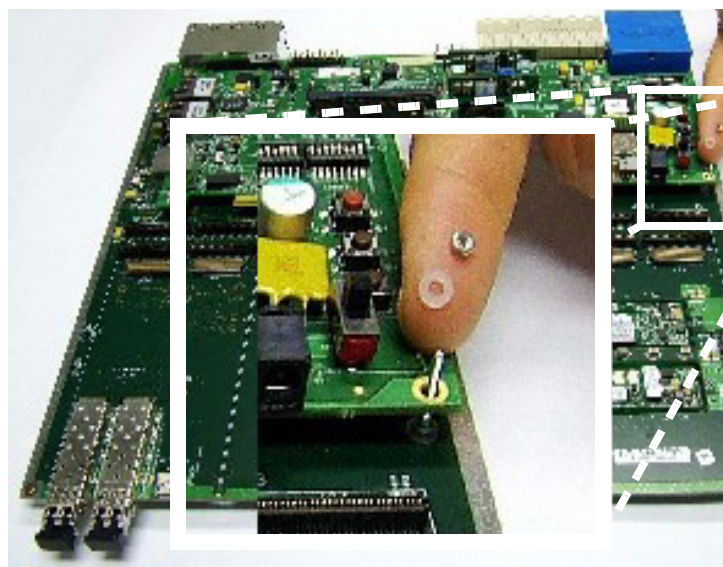

Figure 2-6. Fasten the four tightening screws
5. Manually fasten the four screws as shown in Figure 2-6.